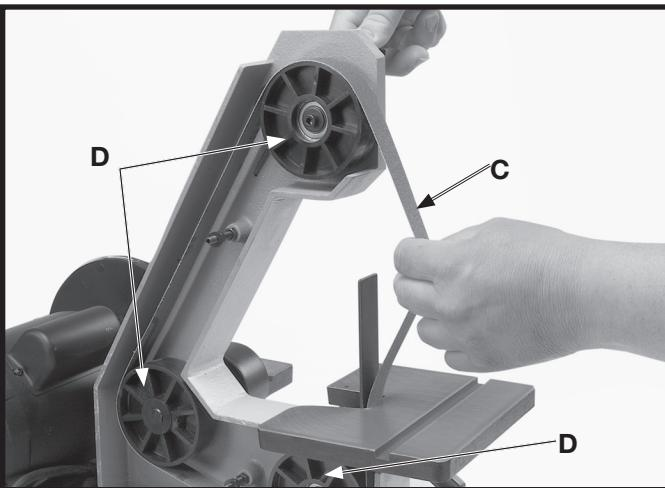

Fig. 32
- Press down on the tracking knob to release belt tension and remove belt (C) Fig. 32, from the three pulleys (D), as shown.